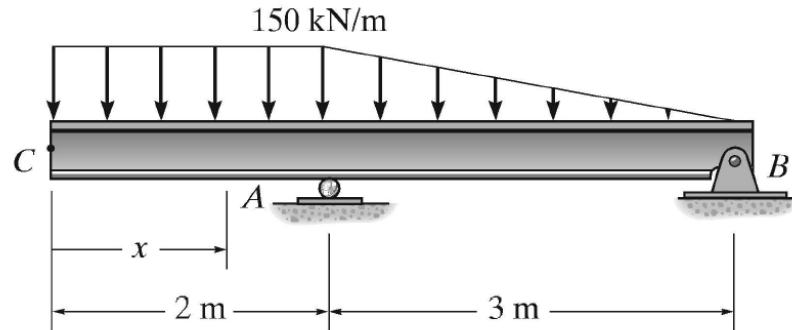

Figure 4(a)
- (a) Figure 4(a) show a beam under a distributed load. The connection at point A is a roller and B is an external pin. Determine the displacement at C and the slope at A of the beam.